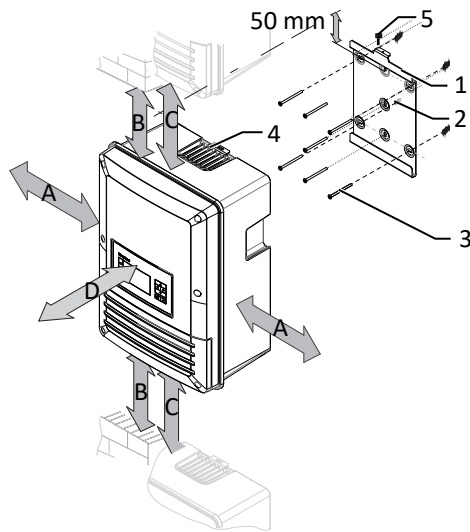

Fig. 12: Minimum clearances for wall mounting
3. Insert the screw provided into the lug of the mount and secure the device to prevent it from being lifted off [✗ X Z2 (Pozidrive) / 🔧 2 Nm] [See figure 12 [▶ Page 18].